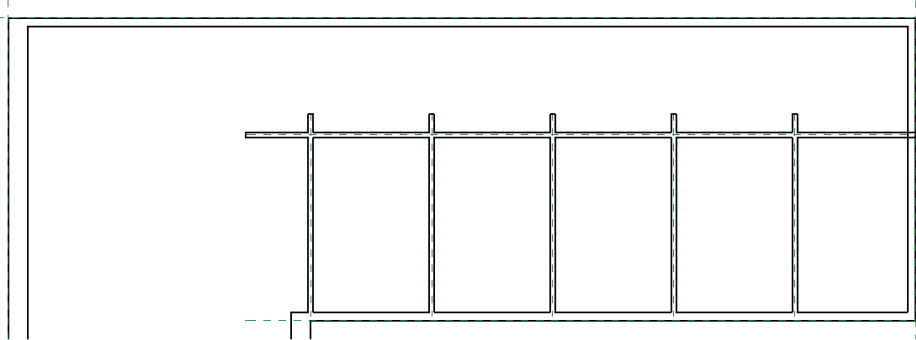

FIGURE 1.12 The interior walls
2. In the Draw gallery in the ribbon, choose the Pick Lines icon; then click each of the green reference planes that have been provided as guides for interior walls. Your results should resemble Figure 1.12.